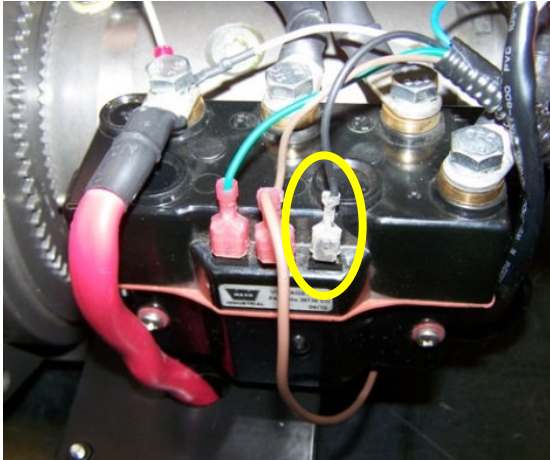

Figure 25
Step 23: Connect the black wire from the OLI harness to the contactor terminal 3. (Figure 25)